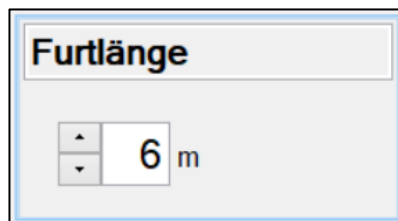

Fig. 26
- Current pedestrian crossing signal level emitted and min./max. level limit (2).
- Pedestrian crossing signal boost (1). If the boost is adjusted, the “Road width” setting (see Fig. 26) is not taken into consideration.